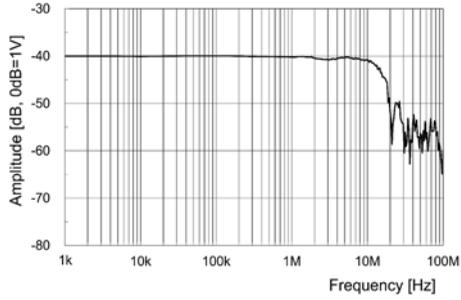
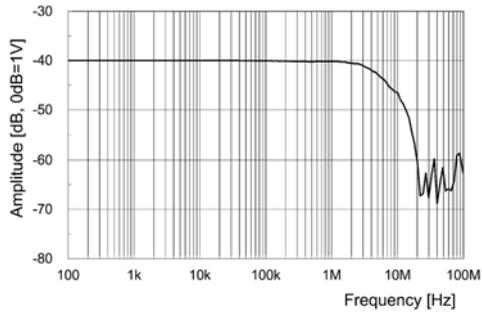

Fig.1 Frequency characteristics (Typical) (3274)
Fig.2 Frequency characteristics (Typical) (3275)
Bandwidth	Model 3274 : DC to 10 MHz (-3 dB) (Typical characteristics shown in Fig.1) Model 3275 : DC to 2 MHz (-3 dB) (Typical characteristics shown in Fig.2)
- (1) Check that the system is safe, and that the preparations described in the preceding section have been carried out.
- (2) Pull the sensor slider, so that the clamp opens.
- (3) Align the sensor so that the current direction indication corresponds to the direction of current flow through the conductor to be measured, and clamp so that the conductor is in the center of the sensor aperture.
- (4) Press the slider on the sensor head until the "UNLOCK" indication disappears, and hold it until LOCK appears, and check that the opening lever is firmly locked and the clamp securely closed.
- (5) It is now possible to monitor the current waveform. The output rate of the 3274 or 3275 is 0.01 V/A. The current sensitivity can be derived from the voltage sensitivity of the waveform measurement instrument. For example, if the voltage sensitivity is 10 mV/division, the current sensitivity is 1 A/division.
- The current consumption of clamp-on probes depends on the current to be measured. Confirm that the total current consumption of the clamp-on probes does not exceed the rated output current of the 3272. See Figure 1.